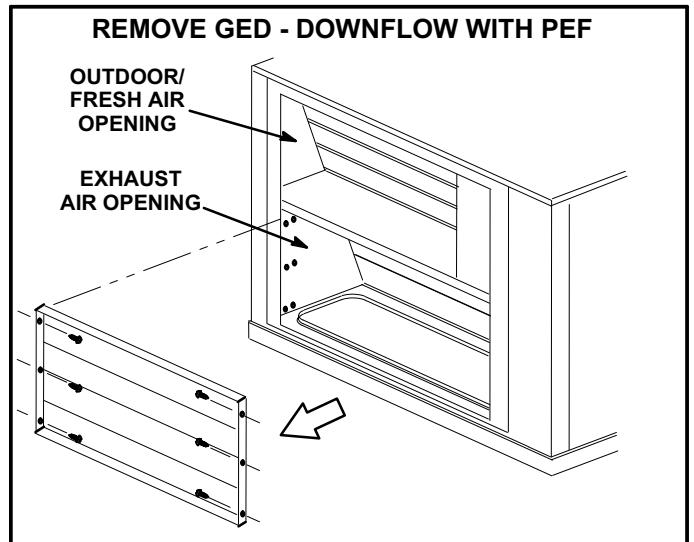

FIGURE 6
- 1- Remove GED from the economizer and install in the fresh / exhaust air hood when optional power exhaust fans are installed. See figure 6.